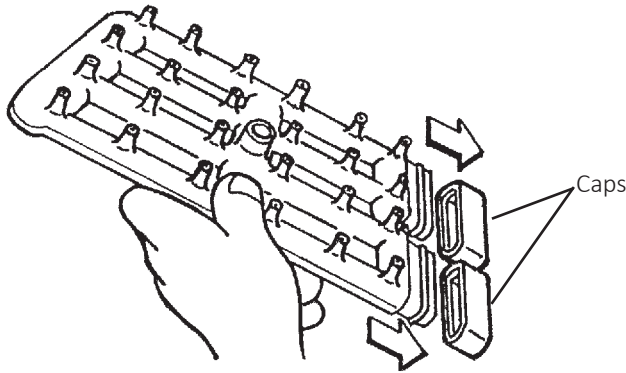

Fig. 33
- 8) Remove the two caps. See Fig. 33.